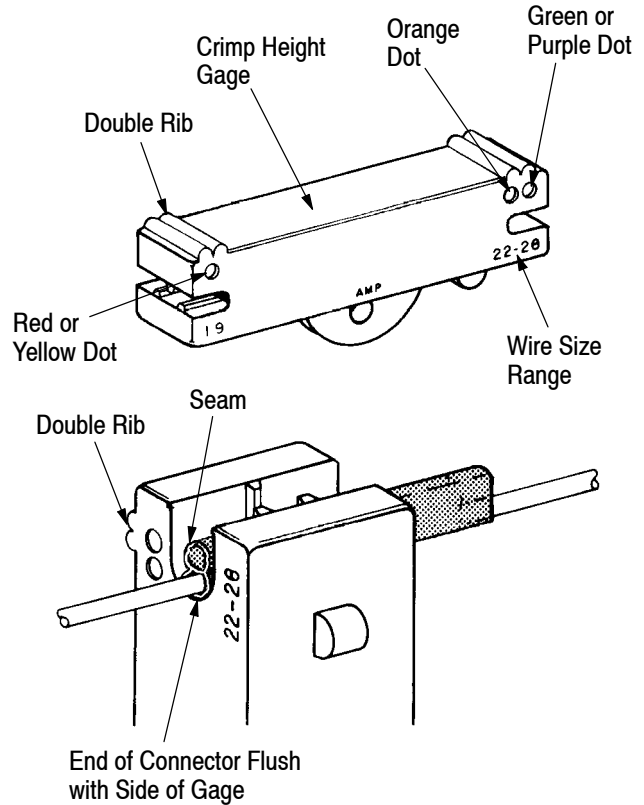

Figure 7
**8.1. Gaging Crimped Connectors (Figure 7)**